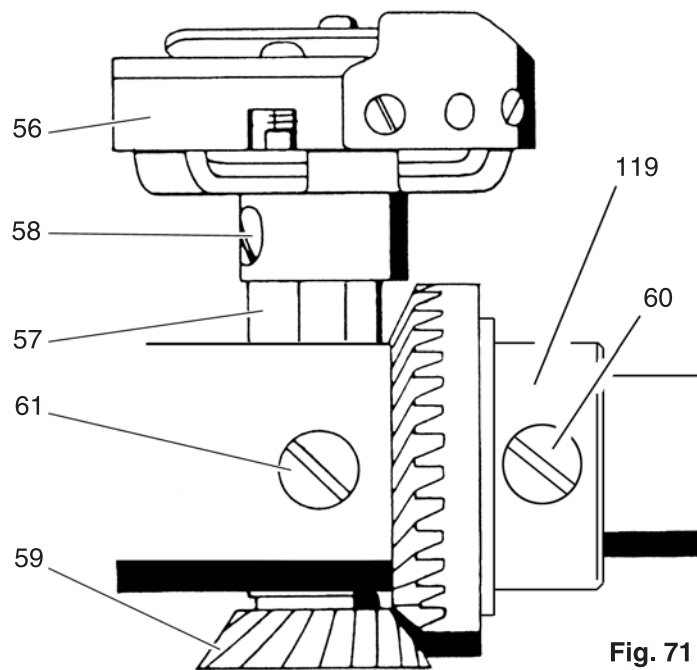

Fig. 71
- Unscrew and remove screw 60 of lifting eccentric 119 (fig. 71).
- Insert the new hook driving shaft with bevel gear 59 in the sewing hook bearing (fig. 71).
- Swivel in screw 60 of lifting eccentric 119 and fasten slightly (fig. 71).
- Slightly loosen screw 60 (fig. 71).